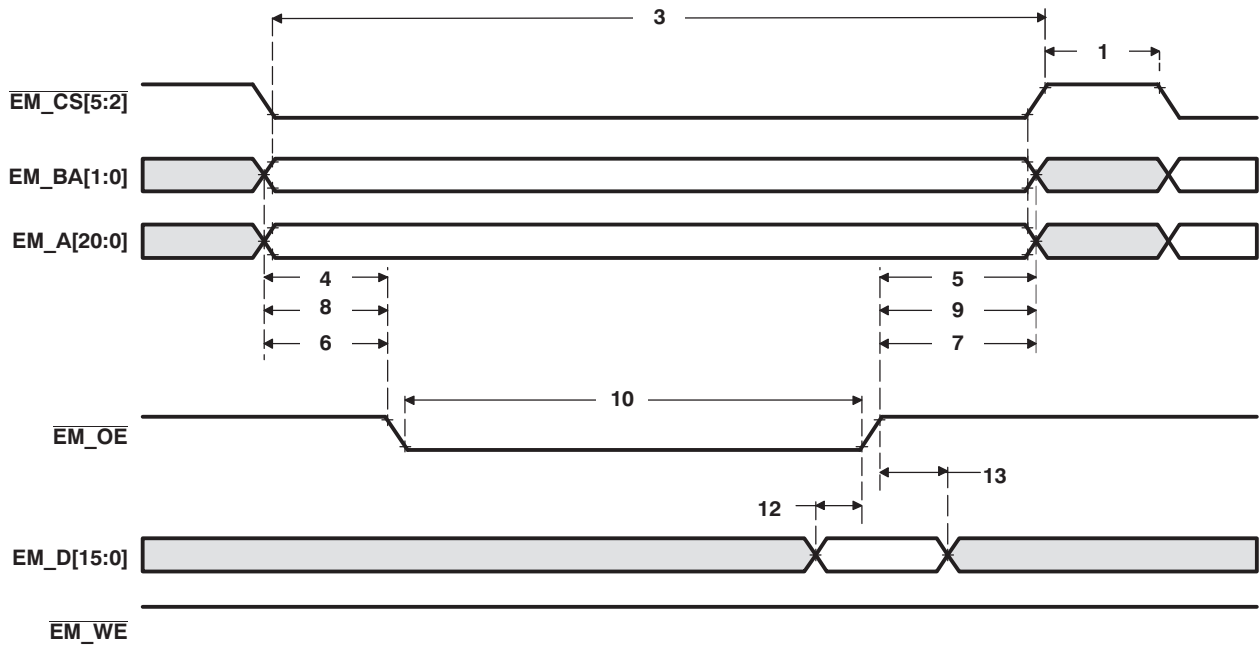
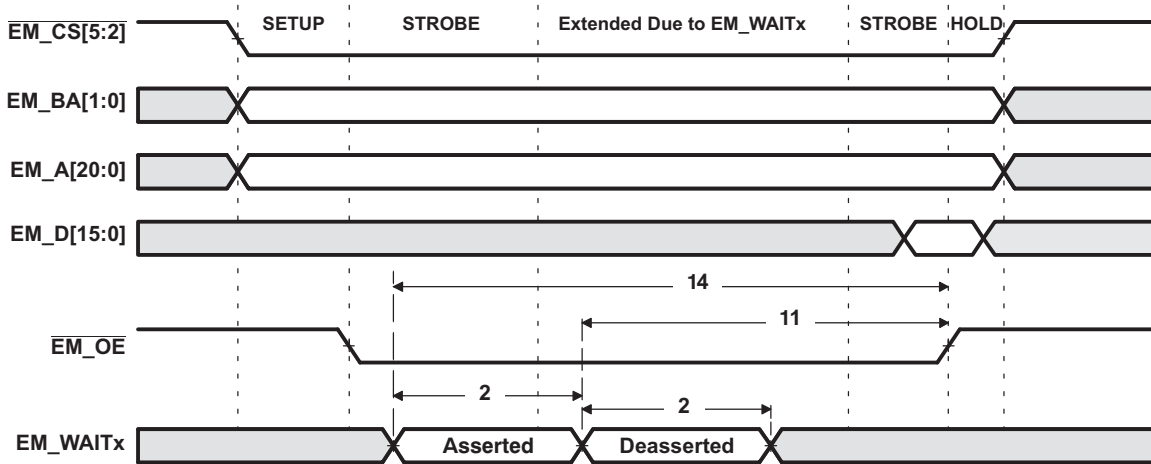
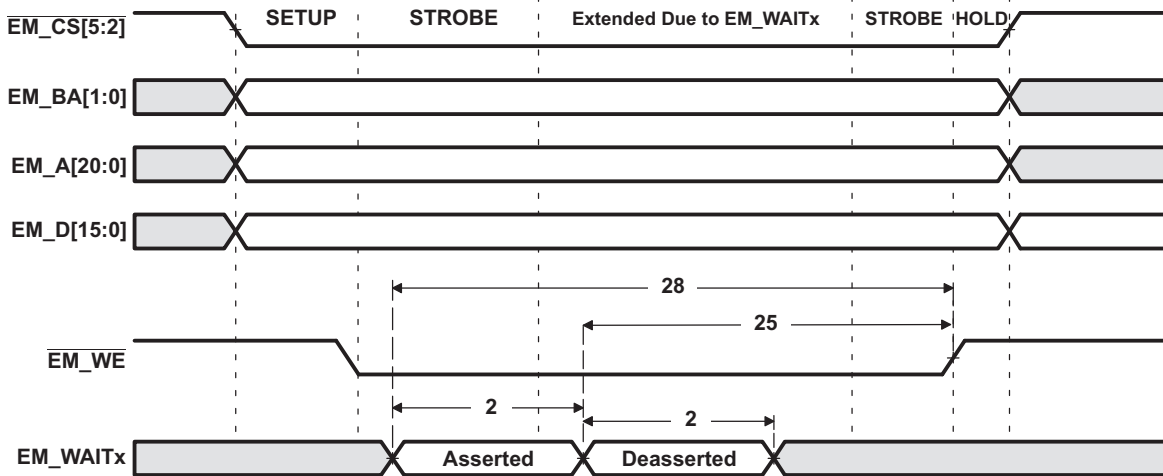

Figure 5-17. Asynchronous Memory Read Timing for EMIF
Figure 5-19. $\overline{\text{EM_WAIT}}_x$ Read Timing Requirements
Figure 5-20. EM_WAITx Write Timing Requirements
Table 5-19. Timing Requirements for EMIF Asynchronous Memory⁽¹⁾⁽²⁾ (see Figure 5-17, Figure 5-19, and Figure 5-20)
(1) Timing parameters are obtained with 10pF loading on the EMIF pins.
(2) E = SYSCLK period in ns. For example, when SYSCLK is set to 100/120 MHz, E = 10/8.33 ns, respectively.
(3) Setup before end of STROBE phase (if no extended wait states are inserted) by which EM_WAITx must be asserted to add extended wait states. Figure 5-19 and Figure 5-20 describe EMIF transactions that include extended wait states inserted during the STROBE phase. However, cycles inserted as part of this extended wait period should not be counted; the 4E requirement is to the start of where the HOLD phase would begin if there were no extended wait cycles.
Table 5-20. Switching Characteristics Over Recommended Operating Conditions for EMIF Asynchronous Memory^{(1)(2) (3) (4)} (see Figure 5-17, Figure 5-19, and Figure 5-20)
(2) TA = Turn around, RS = Read setup, RST = Read strobe, RH = Read hold, WS = Write setup, WST = Write strobe, WH = Write hold, MEWC = Maximum external wait cycles. These parameters are programmed via the Asynchronous Configuration and Asynchronous Wait Cycle Configuration Registers.
(3) E = SYSCLK period in ns. For example, when SYSCLK is set to 100/120 MHz, E = 10/8.33 ns, respectively.
(4) EWC = external wait cycles determined by EM_WAITx input signal. EWC supports the following range of values EWC[256-1]. Note that the maximum wait time before timeout is specified by bit field MEWC in the Asynchronous Wait Cycle Configuration Register.
Table 5-20. Switching Characteristics Over Recommended Operating Conditions for EMIF Asynchronous Memory^{(1)(2) (3) (4)} (see Figure 5-17, Figure 5-19, and Figure 5-20) (continued)